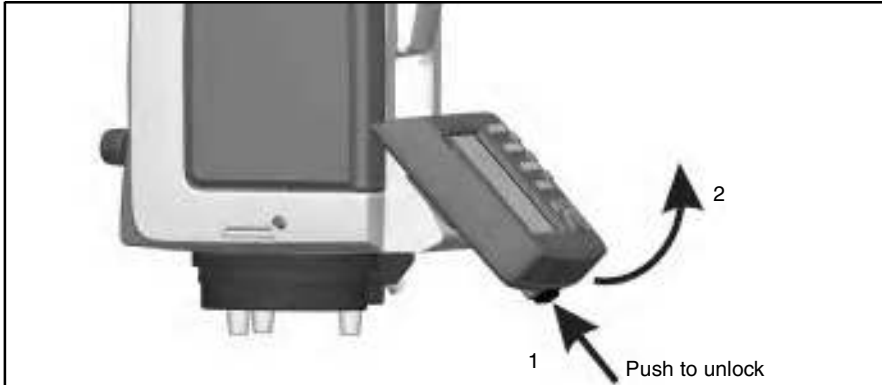

Figure 4.40 Detaching the Trimble CU
1. Push the lock release button on the bottom of the CU. figure 4.40 (1)
2. Lift the bottom of the CU away from the instrument (2),